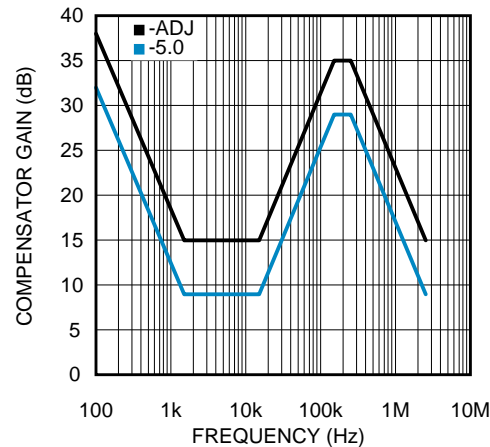

Figure 14. Compensator Gain
The complete transfer function for the regulator loop is found by combining the compensation and power stage transfer functions. The LM22675 has internal type III loop compensation, as detailed in Figure 14. This is the approximate "straight line" function from the FB pin to the input of the PWM modulator. The power stage transfer function consists of a D.C. gain and a second order pole created by the inductor and output capacitor(s). Due to the input voltage feedforward employed in the LM22675, the power stage D.C. gain is fixed at 20dB. The second order pole is characterized by its resonant frequency and its quality factor (Q). For a first pass design, the product of inductance and output capacitance should conform to the following equation: